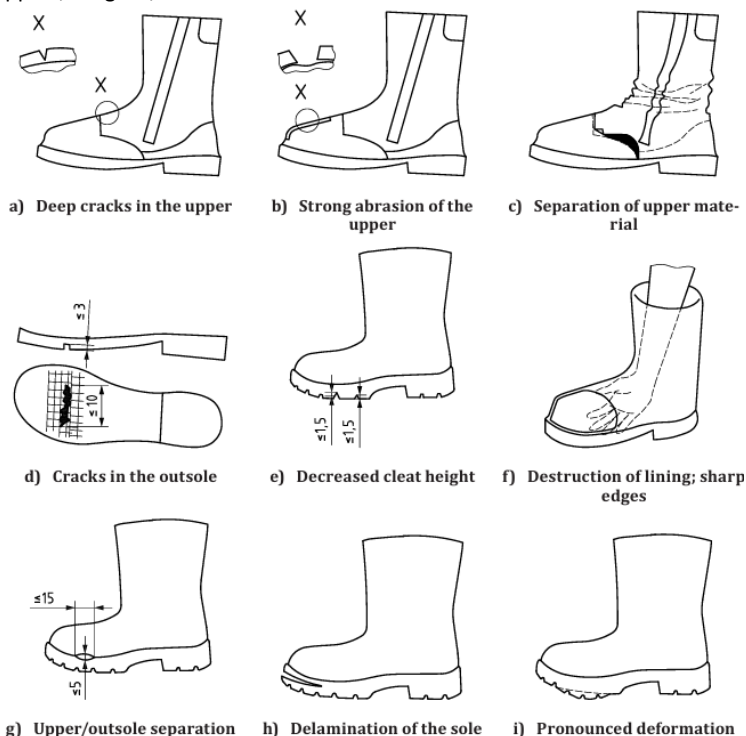

Figure B.1 — Examples for criteria for the assessment of the state of safety footwear
- Beginning of pronounced and deep cracking affecting half of the upper material thickness (Figure B.1 a);
- Strong abrasion of the upper material, especially if the toe puff or the toecap is revealed (Figure B.1 b);
- The upper shows areas with deformations or split seams in the leg (Figure B.1 c);
- The outsole shows cracks higher than 10 mm long and 3 mm deep (Figure B.1 d);
- Upper/outsole separation of more than 15 mm long and 5 mm deep (Figure B.1 g);
- Cleat height for cleated outsoles at any point lower than 1,5 mm (Figure B.1 e);
- Destruction of the lining or sharp borders of the toe protection which could cause wounds (Figure B.1 f);
- Delamination of the soling materials (Figure B.1 h);
- Pronounced deformation of the outsole due to heat exposure any of the following causes (Figure B.1 i);